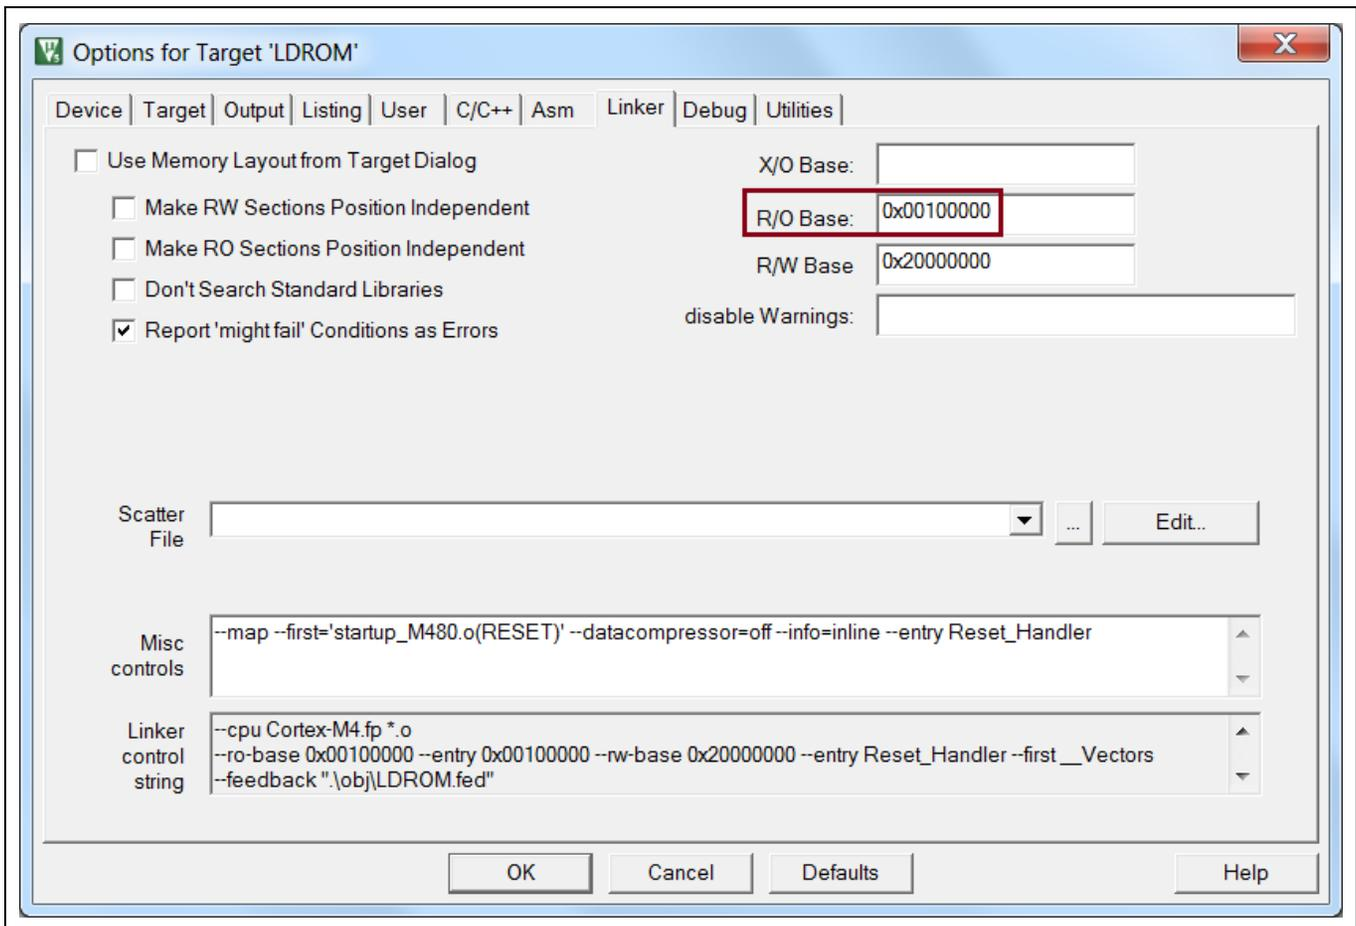

Figure 3 Add data to R/O Base item
Step 1. First, open LDROM.uvproj to select Target Options. Choice the Linker tab page, and input "0x00100000" in the R/O Base field, as shown in Figure 3.